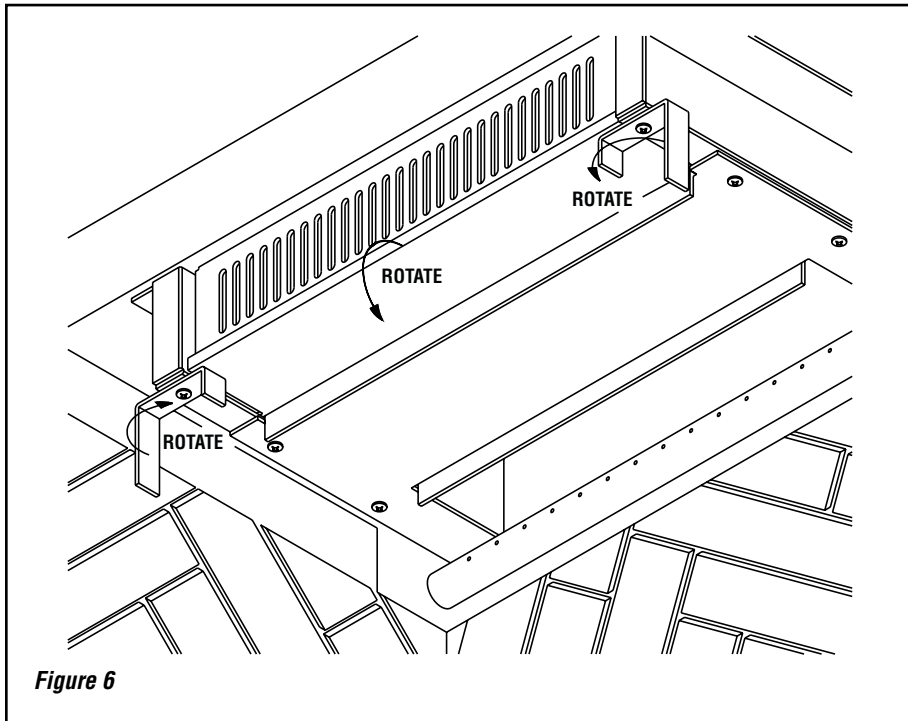

Figure 6
**Cleaning Procedure (see Figure 6):**